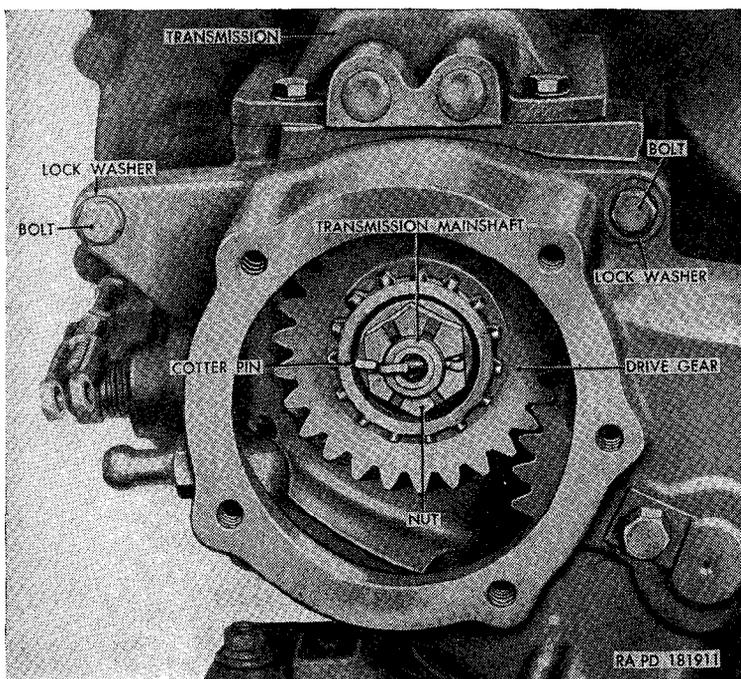

Figure 127. Transfer drive gear installed.
- d.* Shift transmission out of neutral and remove the cotter pin, nut (fig. 127), and washer securing the transfer drive gear to the transmission main shaft. Shift transmission back to neutral. Pull the drive gear off the shaft.
- e.* While supporting the transfer, remove the four bolts and lockwashers (fig. 127) two at the top, and two at the bottom, securing the transfer to the transmission. Remove a fifth bolt and lockwasher securing the transfer to the transmission from the lower right rear of the transmission flange.
c. Make certain the transfer and transmission mating surfaces are clean and free of old gasket material. Coat a new transfer case-to-transmission gasket with plastic-type gasket cement and position the gasket on the front side of the transfer case. Make certain the transmission main shaft bearing is in place against the transmission rear flange. Position the transfer assembly on the rear of the transmission assembly. Secure the transfer to the transmission with four $\frac{3}{8}$ x $1\frac{1}{8}$ bolts (fig. 127).